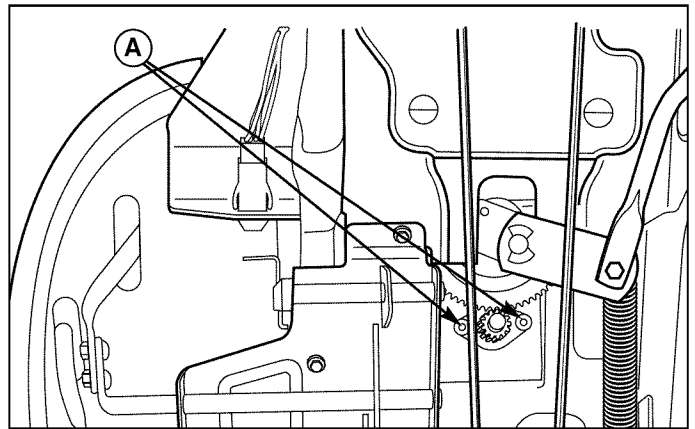

Figure 46. Steering Gear Adjustment
1. See Figure 46. Locate the steering gear assembly on the underside of the tractor. Loosen the two nuts and adjust the bracket so the gear teeth are closely meshed.
2. Tighten nuts (A, Figure 46) to 36-44 ft. lbs. (49-59 Nm) after adjustment.